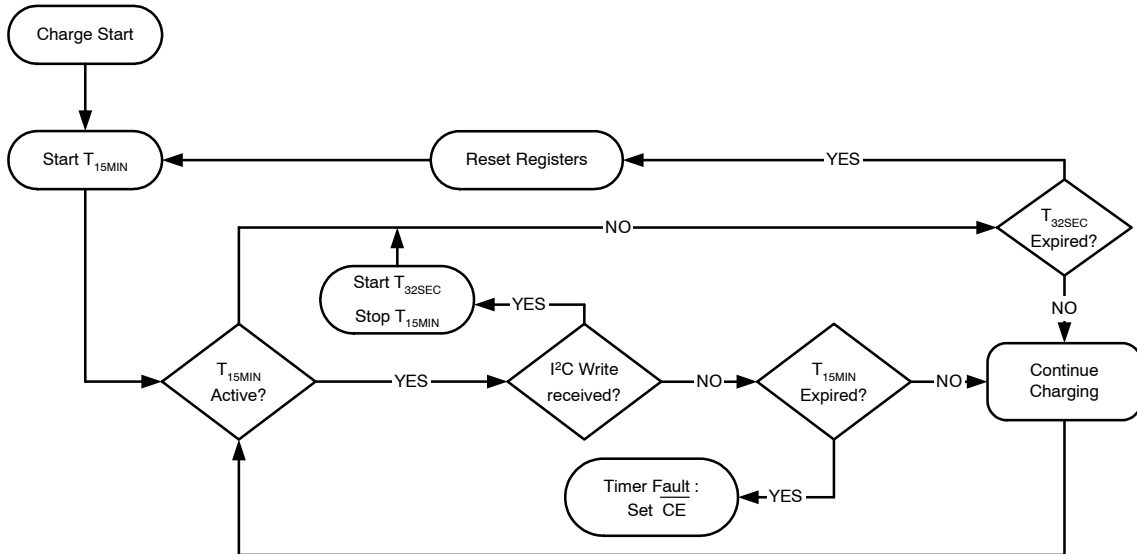

Figure 39. Timer Flow Chart
*Section references Figure 39.*